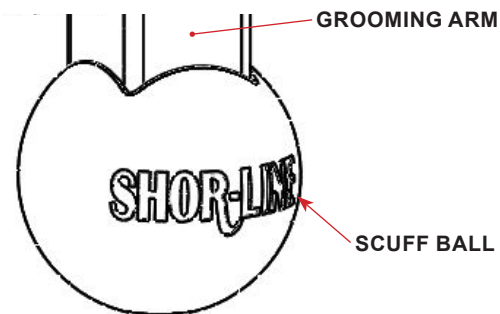

FIGURE 2.7 - Fixed Grooming Arm
STEP 4: Carefully align and insert the scuff ball assembly onto the end of the grooming arm. Apply pressure and work (wiggle) until the ball is seated to the bottom of the arm. See FIGURE 2.7